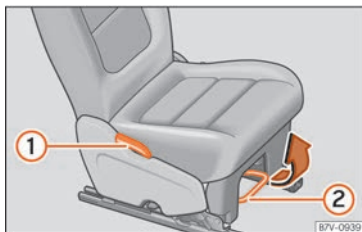

**Fig. 130** Adjusting rear seats
- Pull the lever and adjust the seat backrest to the desired position » **Fig. 130 ①** » ①. The seat backrest must be engaged when the lever is released!